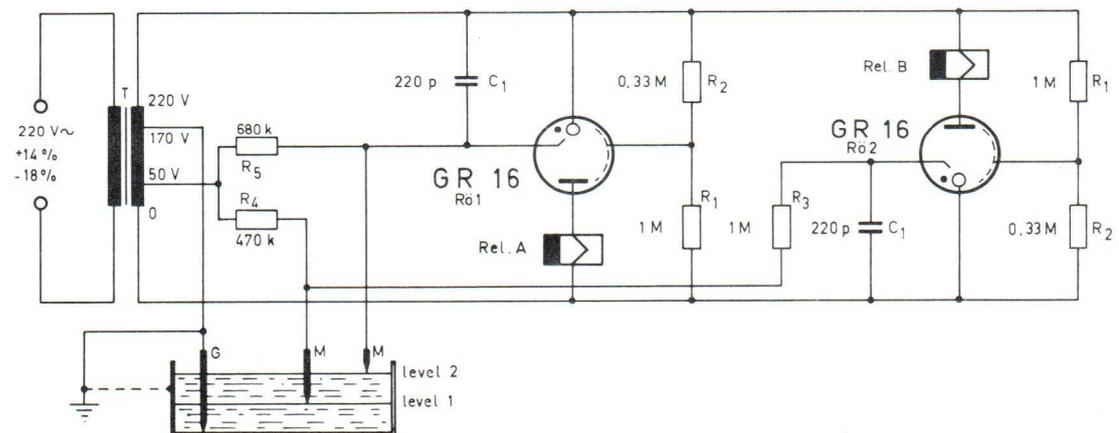

Fig. 6
- Transformer: Power about 8 VA, in the case of Fig.6 about 16 VA
#### 3.3.2 Baissed-on circuit, Fig. 6